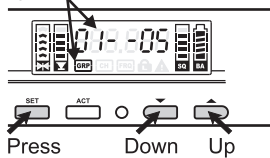

Fig. 11
#### (A) GRP: GROUP Setting. Fig. 11